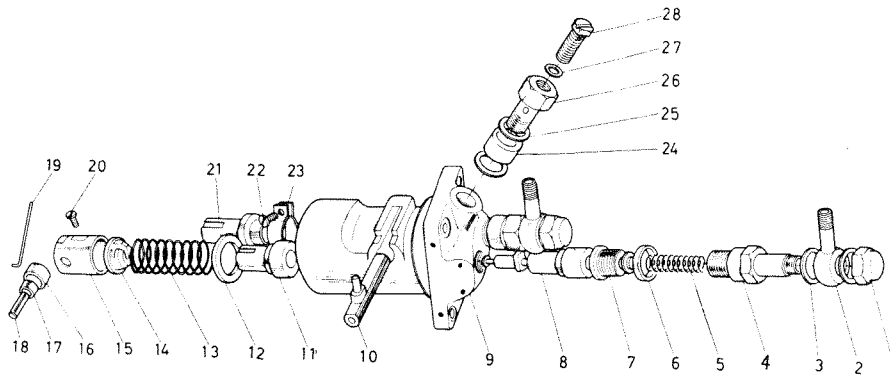

Fig. 5 Structure of Fuel Injection Pump
- ④ The fuel injection pump is constructed as shown in Fig. 5.